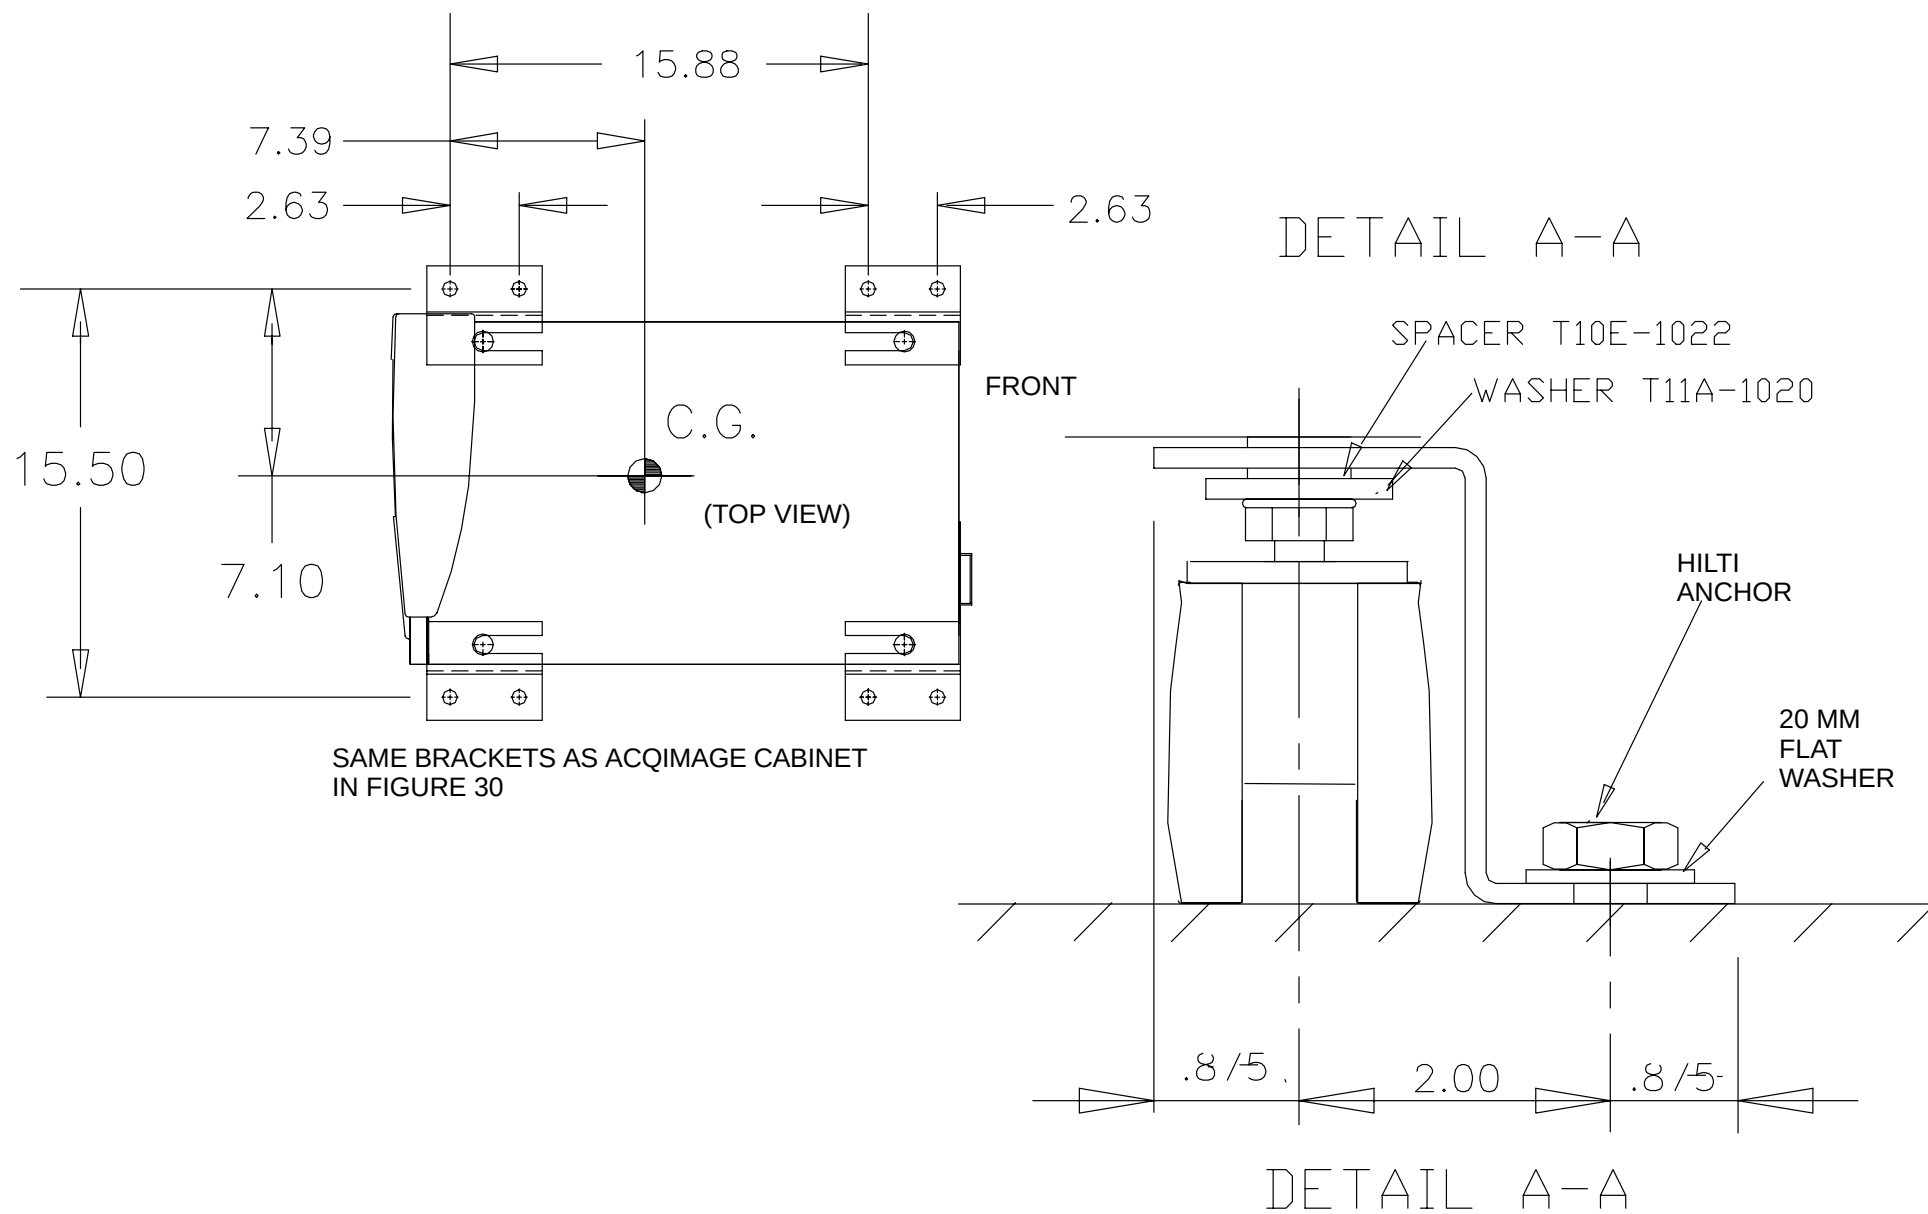

FIGURE 31 SEISMIC BRACKET – DISPLAY TOWER
4. Install the spacers and washers as shown in Figure 31 for the Display Tower.